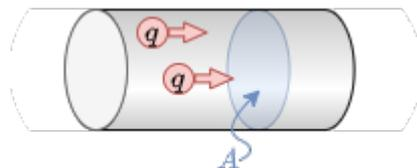

Fig. 11: Part of a Conductor
- In the thought experiment, let the following be given (see figure 11):
- In the case of a uniform charge transport over a longer period of time, i.e. direct current (DC),